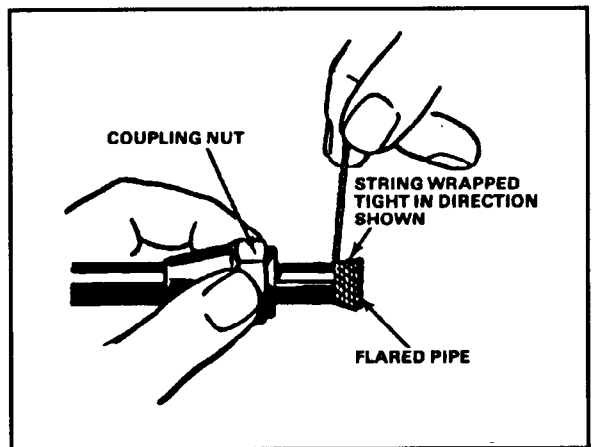

FIGURE 22-17. Leaking Fuel Line Repair.
*Leaking Line Fitting.* Leaks at fuel line fittings can develop from the vibrations caused by cross-country operation and may result in an extremely dangerous condition if not discovered and corrected promptly. To correct this deficiency, unscrew the coupling nut, wind a piece of string clockwise behind the flare, slide the coupling nut over this temporary gasket, and tighten with a wrench (Figure 22-17).